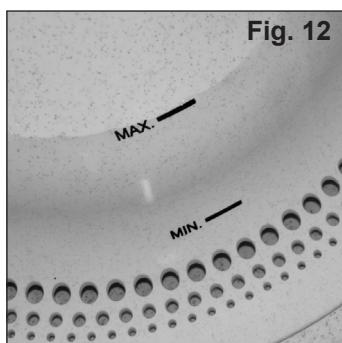

Fig. 12
- 14) Add water as needed. **Never** let the water level fall lower than the MIN. Fill Line (approx. 1" above the bottom of the bowl, Fig. 12) or the pump may fail. To properly pick up the fountain, use both hands and grip the sidewalls of the fountain bowl and lift. **Never pick up a full fountain by the Cone piece.**